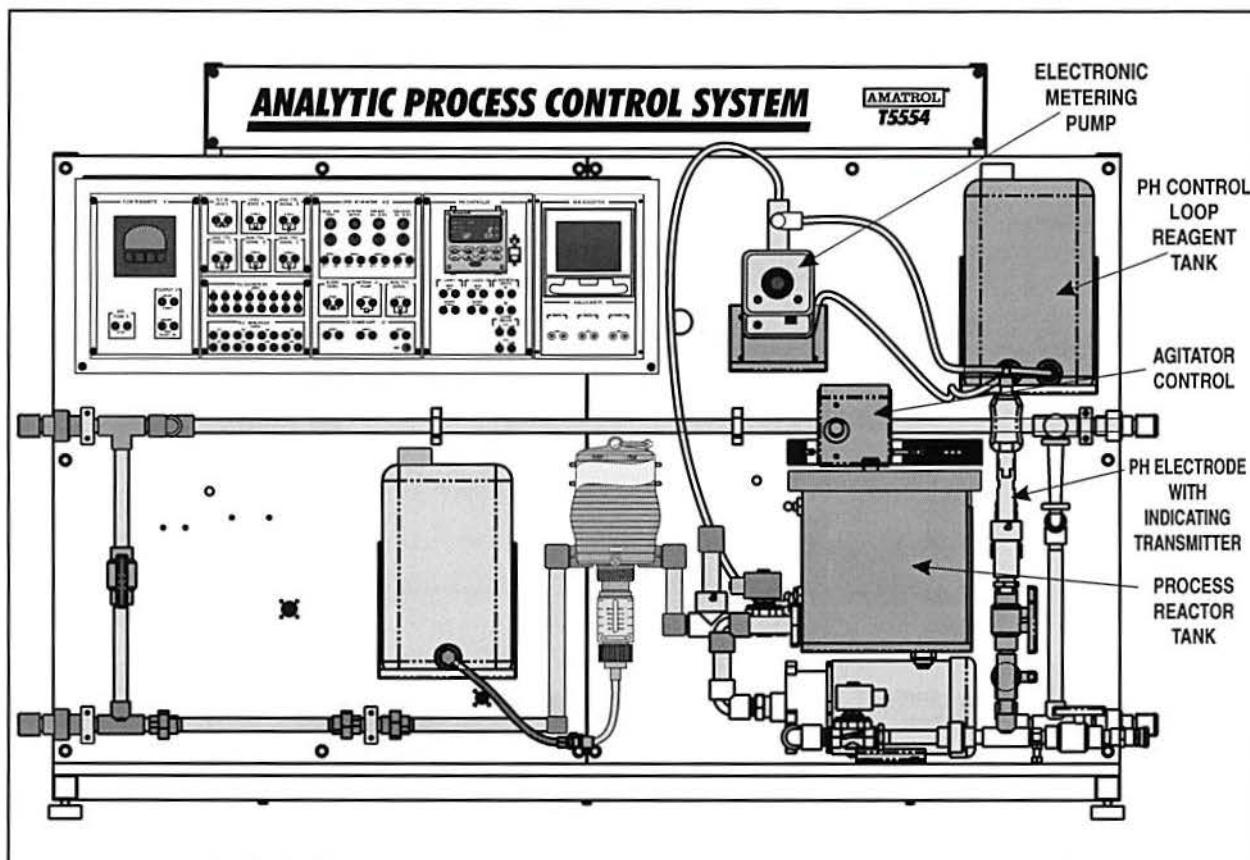

Figure 26. Components of the pH Control Loop
- 5. Perform the following substeps to locate the components of the pH control loop, shown in figure 26.
A. Locate the **pH Control Loop Reagent Tank**, identified in figure 26.
B. Locate the **Electronic Metering Pump**, identified in figure 26.
C. Locate the **Process Reactor Tank**, identified in figure 26.
- E. Locate the **pH Electrode w/Indicating Transmitter**, as identified in figure 26.